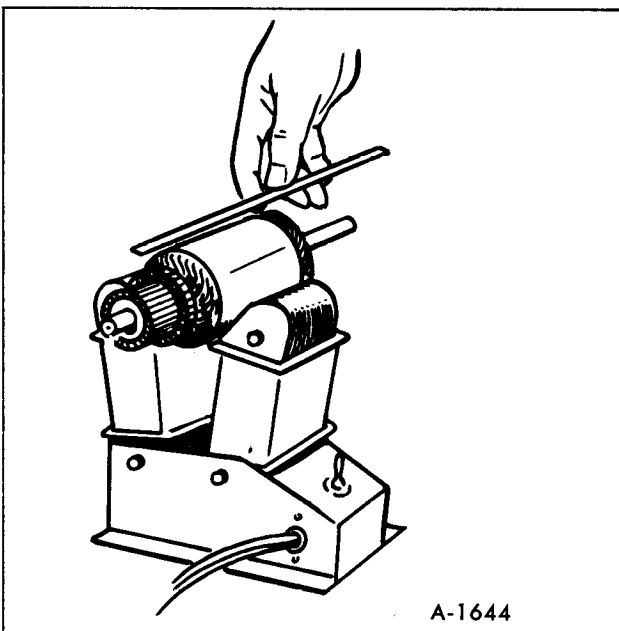

Figure 56-Testing for a Short Circuit
**SHORTED ARMATURE:** (figure 56) Use a growler tester for testing armature for a short circuit. Place armature in growler and hold a thin, steel blade (hacksaw blade) parallel to the core and just above it while slowly rotating armature in growler. A shorted armature will cause blade to vibrate and be attracted to the core.